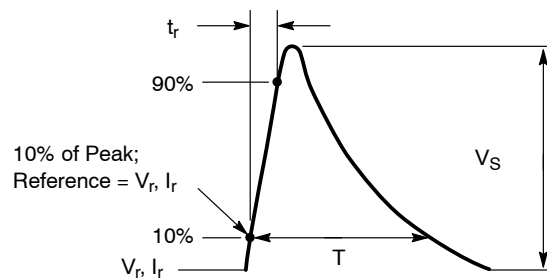

Figure 3. Load Dump Waveform Definition
3. Nonrepetitive load dump pulse per Figure 3.